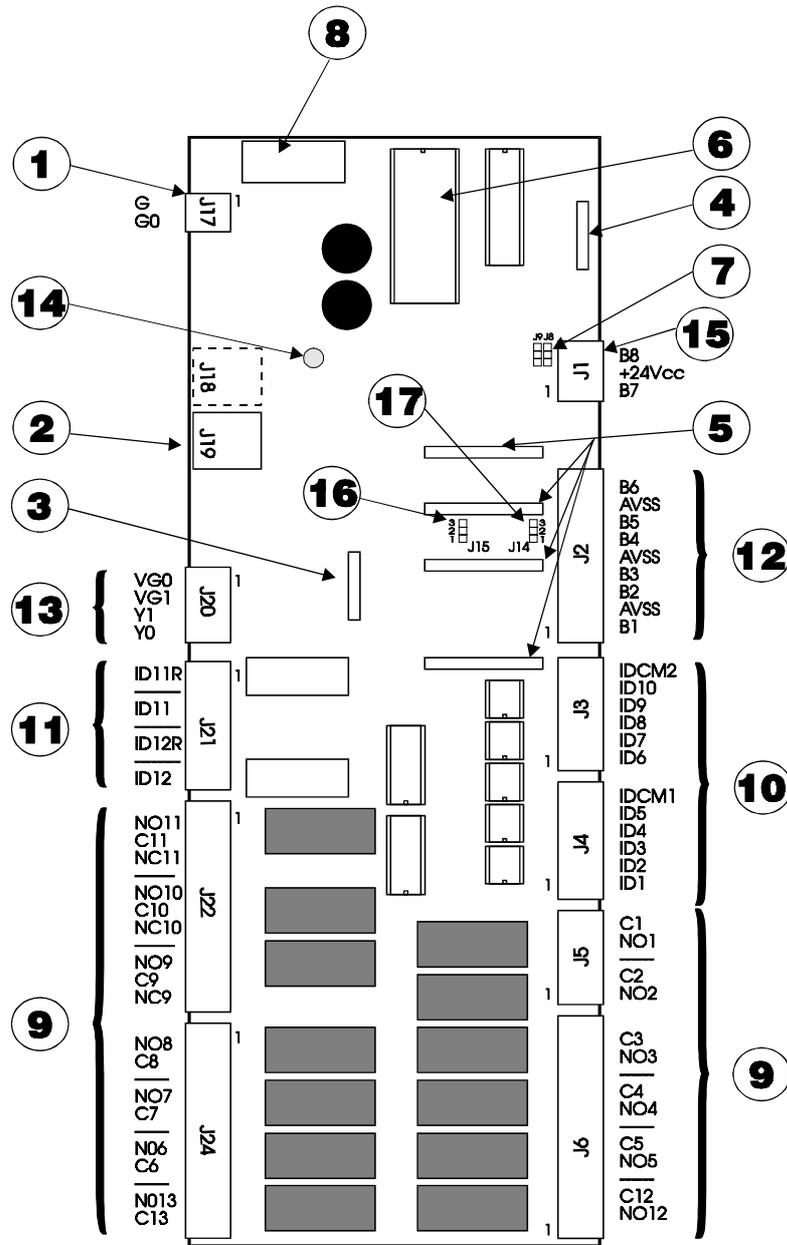

Fig. 18
**Fig. 18 references, page 20**